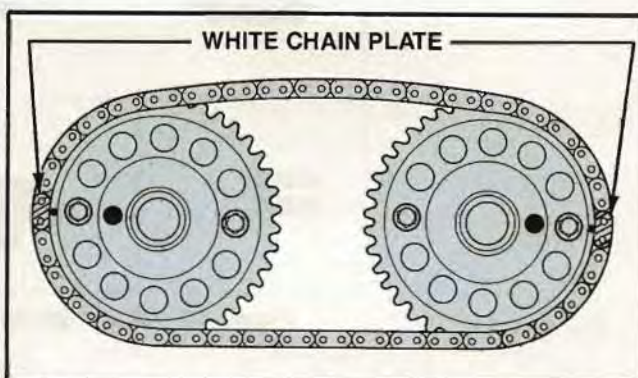
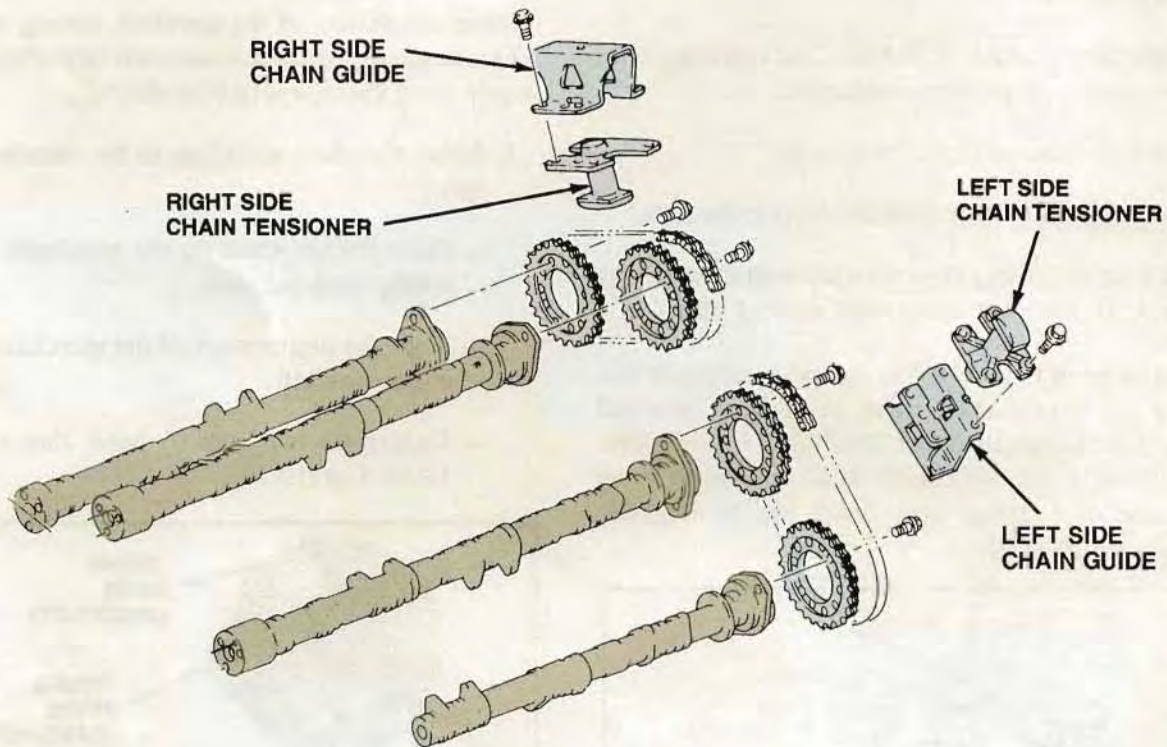

Figure 111. Installing the Chain
Figure 112. Right and Left Side Chain Tensioners
2. Install the right side chain and chain tensioner (Fig. 111). Note that the right side chain tensioner forces down against the chain while the left tensioner forces up (Fig. 112). The tensioners can be identified by their appearance. *Note the height difference in the tensioners and the chain guides (Fig. 113).*